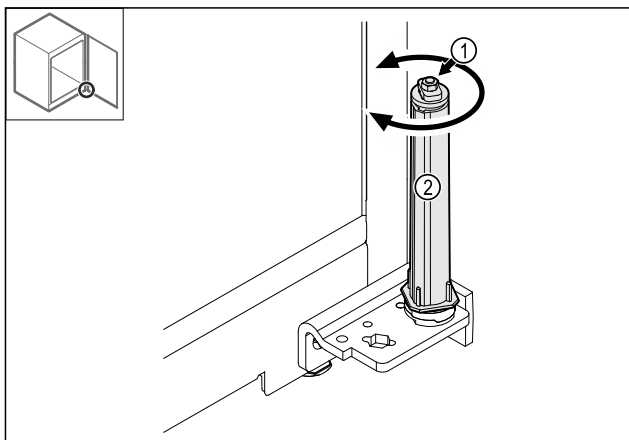

Fig. 44
- Do not disassemble the screw connection Fig. 44 (1) of the closing system.
- Turn the closing system Fig. 44 (2) until it clicks.